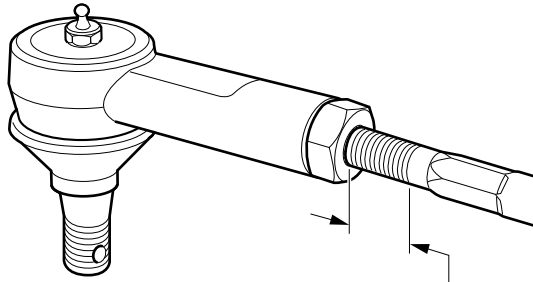

Figure 12 Rack Ball Joint Installation
- To install the new rack ball joint close to its correct position, measure amount of threads exposed from jam nut (Figure 12).
- Using the measurement made earlier, thread the jam nut and new ball joint (1) onto the rack extension. Set the jam nut (4) finger tight against the ball joint (Figure 12).